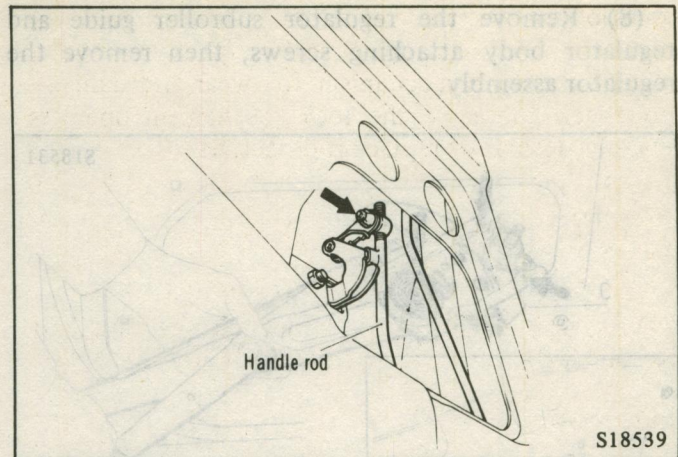

Fig. 64 Removing Outer Handle
- (2) Remove the outer handle rod at the handle and remove the outer handle. (Fig. 64)